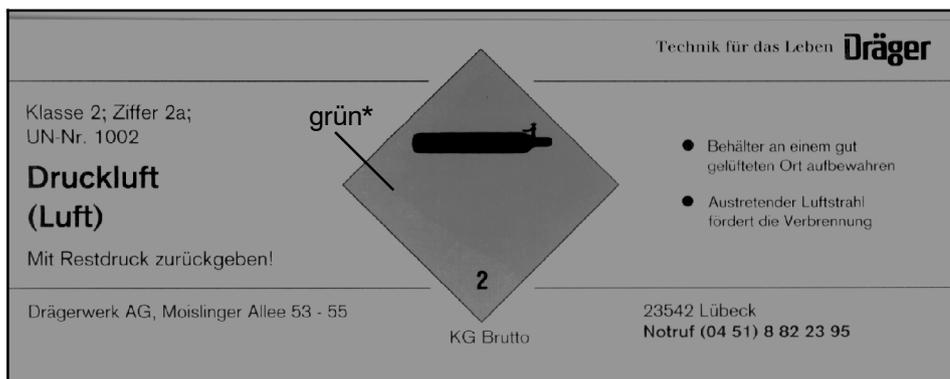

Fig. 33 Danger label no.2
- In every case the compressed air cylinders must be marked according to Rn. 2224 para. 1 with a danger label No. 2 (gas cylinder black or white on green\* background, small number "2" in the bottom corner), see Fig. 33.